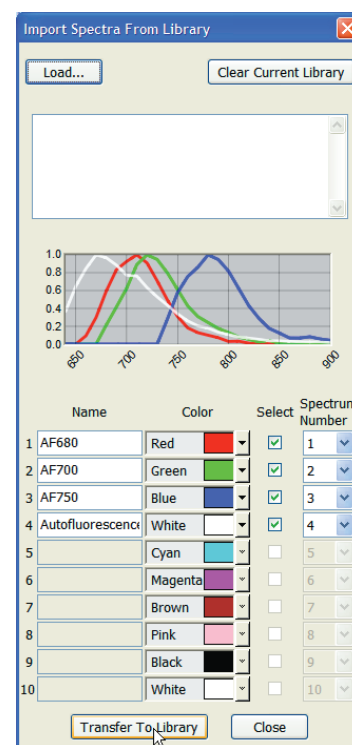

Figure 27. Import Spectra
3. The **Import Spectra From Library** dialog box (Figure 27) opens with the spectrum used to unmix the cube into that component.
3. The **Import Spectra From Library** dialog box (Figure 27) opens with all the spectra used to unmix the cube.